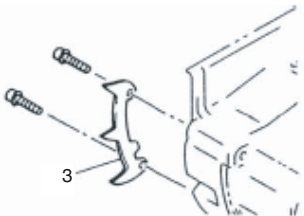

Fig. 2
\* In case of installing the spiked bumper (3), install the spiked bumper (3) to the unit with two screws. (Fig. 2)